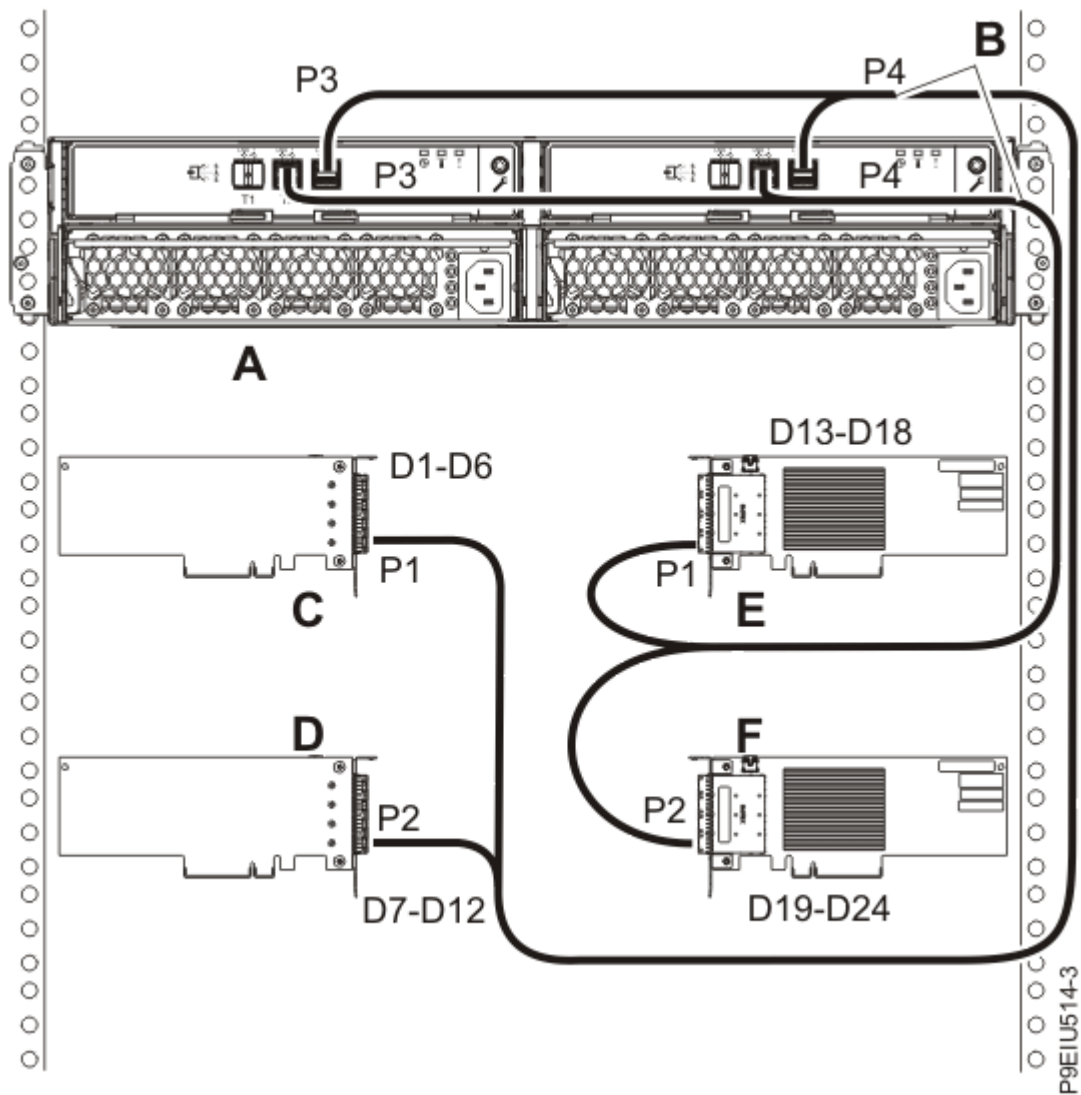

Figure 23. Mode 4 connection of one ESLL or ESLS storage enclosure by using X12 cables to four independent FC EJ0J or FC EJ0M SAS adapters
23. Complete a mode 4 connection of one enclosure (A) by using X12 cables (B) to four independent FC EJ0J or FC EJ0M SAS adapters as shown in Figure 23 on page 28. Then, continue with “Connecting cables, power cords, and installing covers” on page 29.